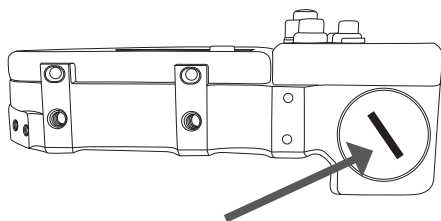

Figure 9
- Open the battery compartment using a coin or a sufficiently wide tool, preferably made of plastic; (Fig. 9)